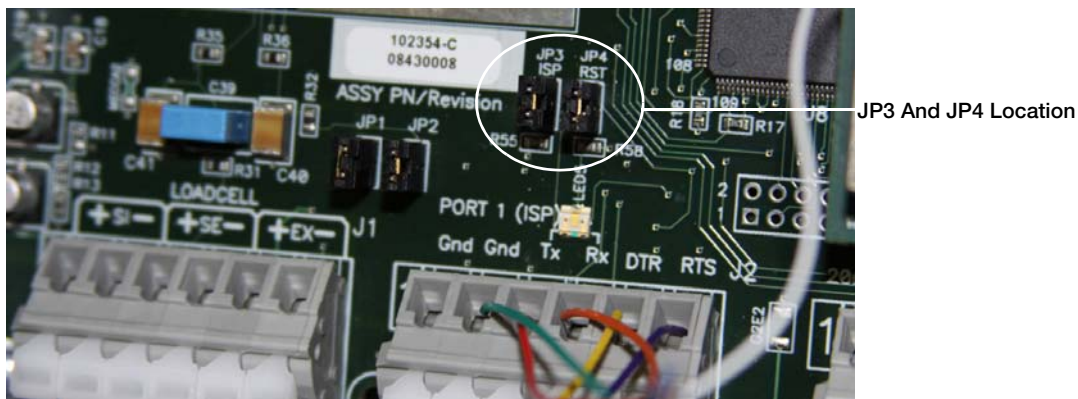

Figure 9-4. Jumpers Installed on JP3 and JP4
3. Install jumpers on JP3 and JP4 as shown in Figure 9-4.
9. When complete, remove the jumpers shown in Figure 9-4 on page 65 and press the **Power** button to power up the indicator.